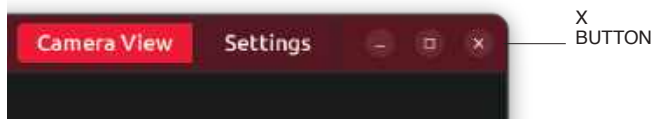

Fig 21
38. Exit the RVM Software application by clicking the **X** at the top right corner of the window. (Fig 21)